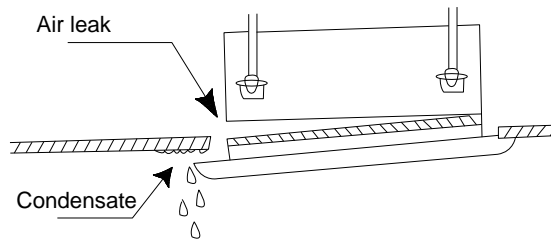

Figure 3-1-46
- (7) Improper screwing of the screws may cause the troubles shown in Figure 3-1-46.